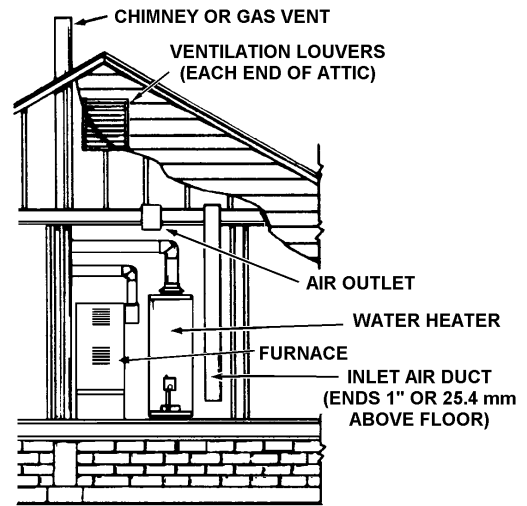

FIGURE 7.
2. When communicating with the outdoors through vertical ducts, each opening shall have a minimum free area of 1 square inch per 4,000 Btu per hour (5.5 cm²/kW) of total input rating of all equipment in the enclosure, see Figure 7.